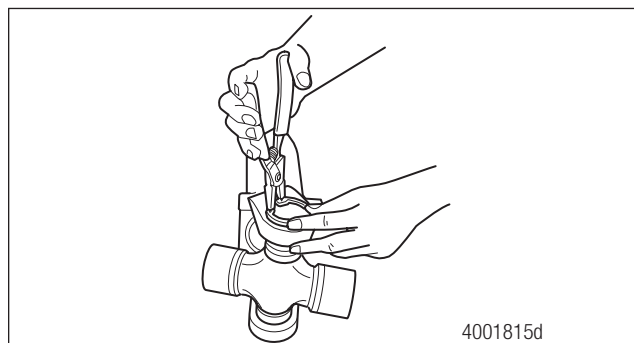

Figure 9.17
4. Use snap ring pliers to install the snap ring into the snap ring groove. Figure 9.17. Fully seat the snap ring.